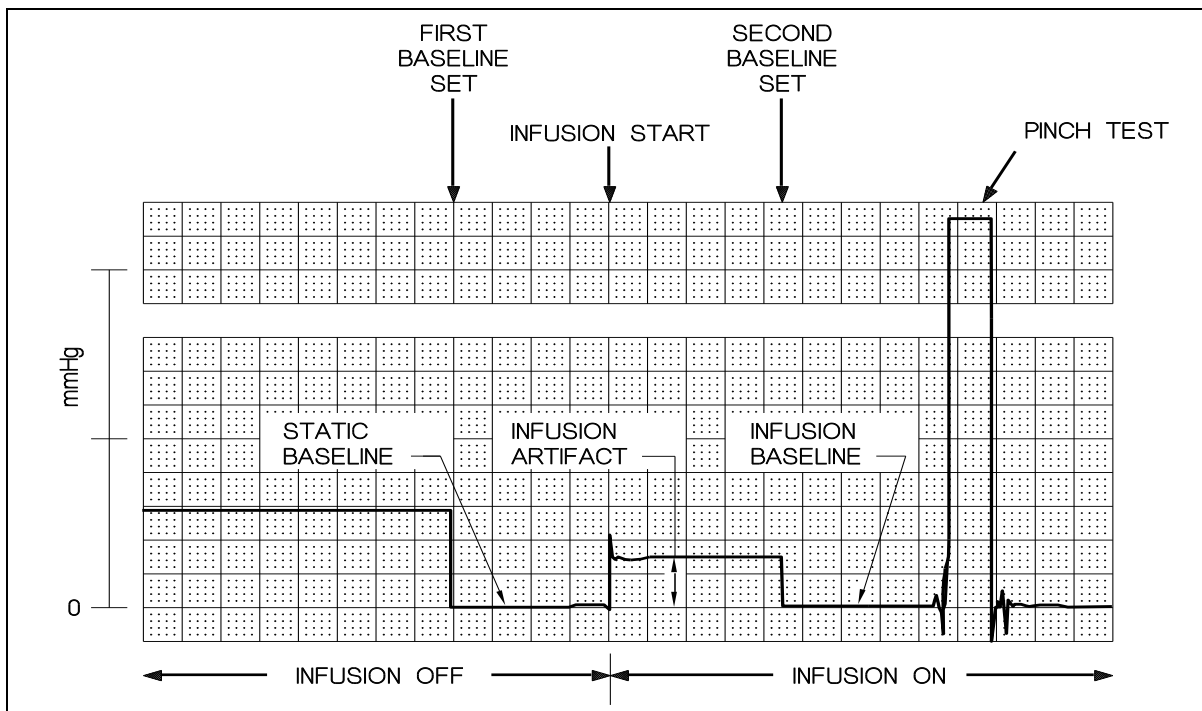

Figure 19. Infusion Artifact
7. With the master valve in the OFF position, set the baseline tracing to 0 (Figure 19).
All tracings should show an increase of baseline of 2-10 mm Hg. This is known as the infusion artifact. See Figure 19. It is caused by friction and restriction of the water flow passing through the catheter. If an abnormally high infusion artifact occurs, blockage or leakage may have occurred within the motility catheter (see Section 5.2).
- Connect the catheter to the transducer and lay it horizontally on top of the transducers. Flush thoroughly with water. With master on-off valve **OFF**, run recording system and set baseline to "0" for the system. Then turn master on-off valve **ON**, and check the recording for the 2-10 mm Hg rise of the infusion artifact (Figure 19, Section 5.1).